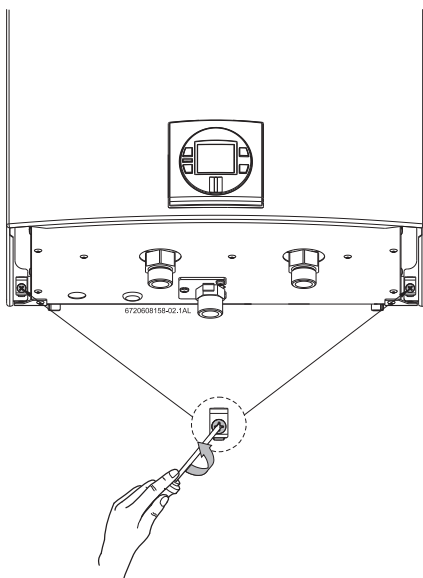

Fig. 1 Loosen two Phillips head screws
- ▶ **3.** Loosen two Phillips head screws located on the bottom rear of the appliance, see Fig. 1.